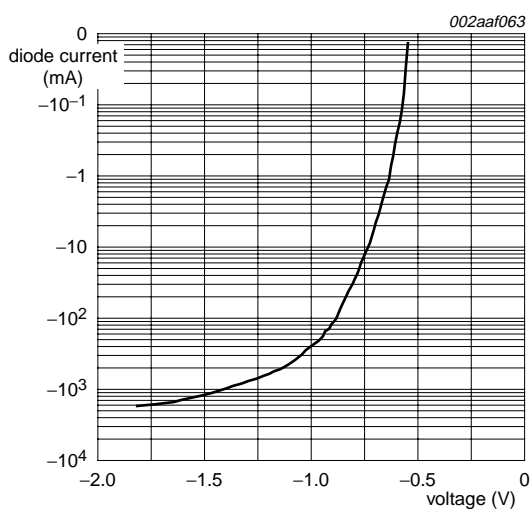

Fig 21. Diode characteristic curve
Figure 21 shows the measured characteristic for one of those diodes inside P82B96. The plot was made using a curve tracer that applies 50 Hz mains voltage via a series resistor, so the pulse durations are long duration (several milliseconds) and are reaching peaks of over 2 A when more than -1.5 V is applied. The IC becomes very hot during this testing but it was not damaged. Whenever there is current flowing in any of these diodes it is possible that there can be faulty operation of any IC. For that reason we put a specification on the negative voltage that is allowed to be applied. It is selected so that, at the highest allowed junction temperature, there will be a big safety factor that guarantees the diode will not conduct and then we do not need to make any 100 % production tests to guarantee the published specification.
For the P82B96, in specific applications, there will always be transient overshoot and ringing on the wiring that can cause these diodes to conduct. Therefore we designed the IC to withstand those transients and as a part of the qualification procedure we made tests, using DC currents to more than twice the normal bus sink currents, to be sure that the IC was not affected by those currents. For example, the Tx/Ty and Rx/Ry pins were tested to at least -80 mA which, from Figure 21, would be more than -0.8 V. The correct functioning of the P82B96 is not affected even by those large currents. The Absolute Maximum (DC) ratings are not intended to apply to transients but to steady state conditions. This explains why you will never see any problems in practice even if, during transients, more than -0.3 V is applied to the bus interface pins of P82B96.
Figure 21 "Diode characteristic curve" also explains how the general Absolute Maximum DC specification was selected. The current at 25 °C is near zero at -0.55 V. The P82B96 is allowed to operate with $+125$ °C junction and that would cause this diode voltage to decrease by $100 \times 2 \text{ mV} = 200 \text{ mV}$. So for zero current we need to specify -0.35 V and we publish -0.3 V just to have some extra margin.